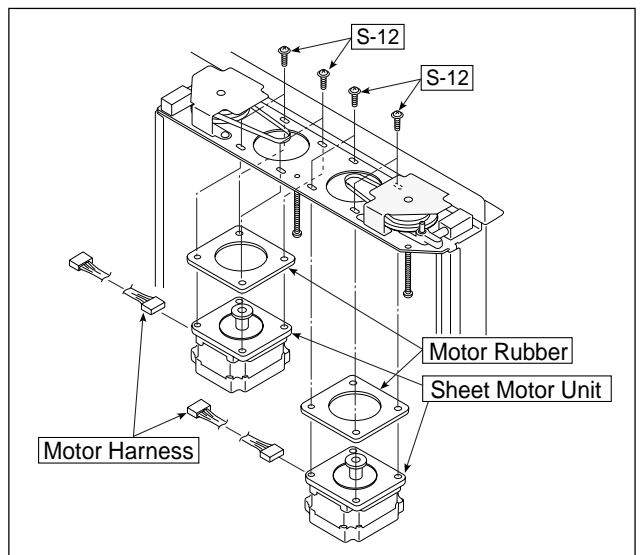

Fig. 12
- 8) Remove the Sheet Motor Unit. (See Fig. 12.)
1. Remove the "S-12" screws shown in Fig. 12 and then remove the Sheet Motor Unit.